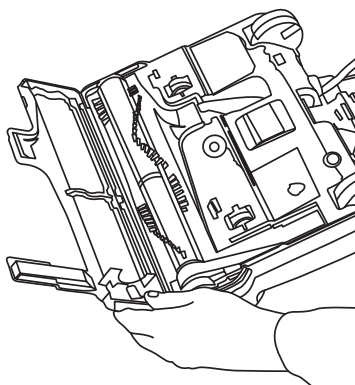

Fig. 12
1. Install bottom plate, making sure bottom plate hinges are in place before setting the plate (Fig. 12).